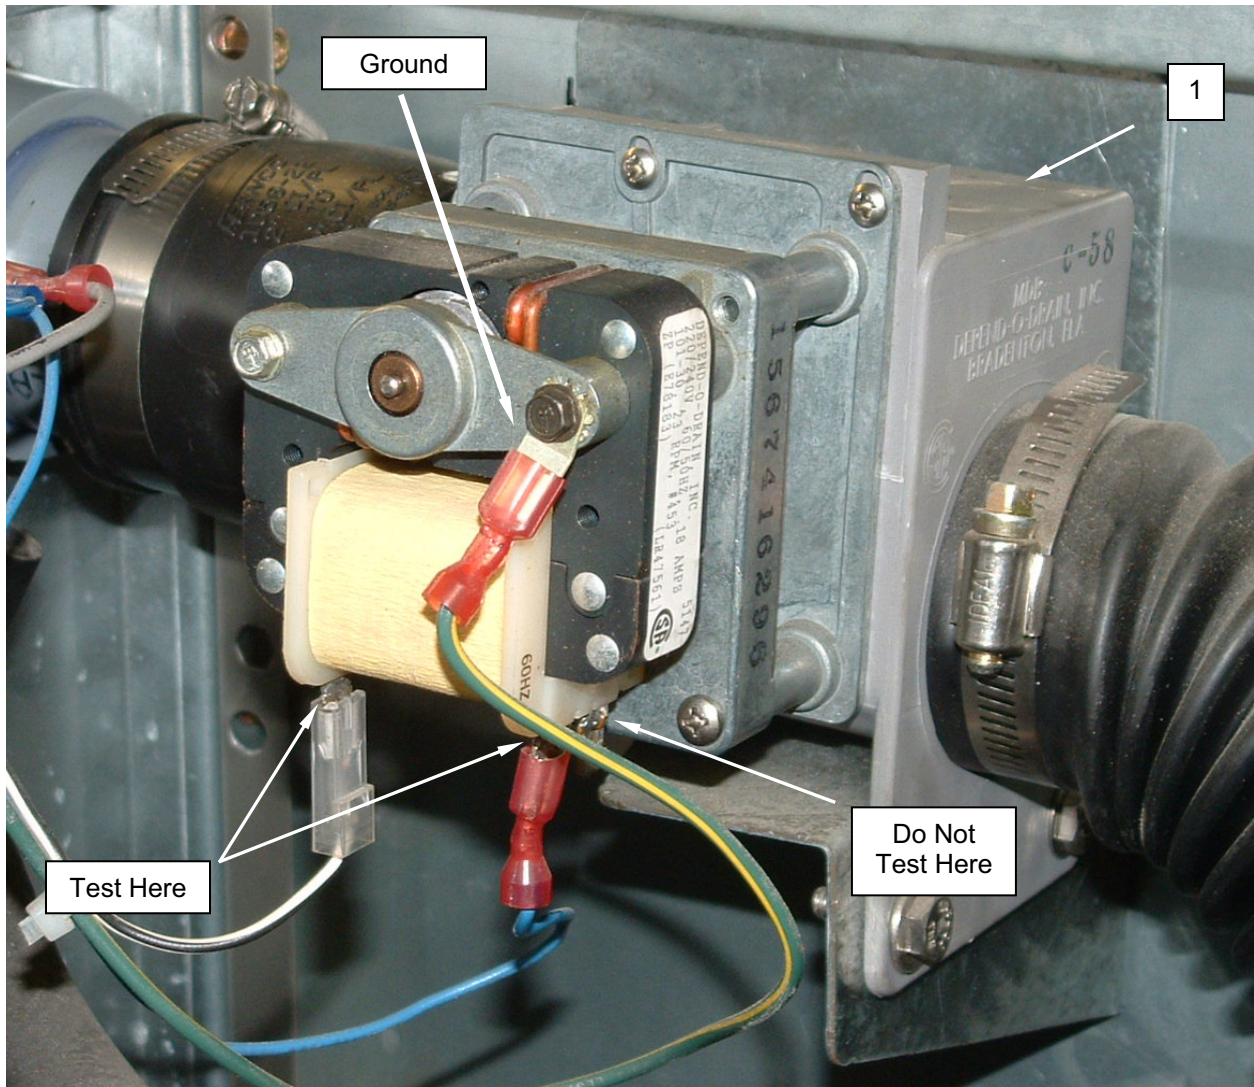

Figure 1. Test the Washer Reuse Tank Dump Valve.
2. Tag and disconnect wiring from dump valve (**Figure 1, Item 1**).
4. Replace a dump valve with an open solenoid (**Figure 1, Item 1**).